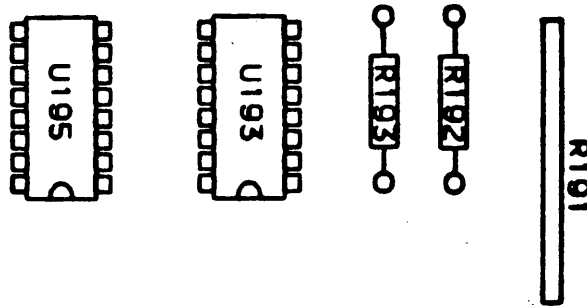

FIGURE 1
3. Insert R192 and R193 (131-0566-00, 0 ohm resistors) as in Figure 1.